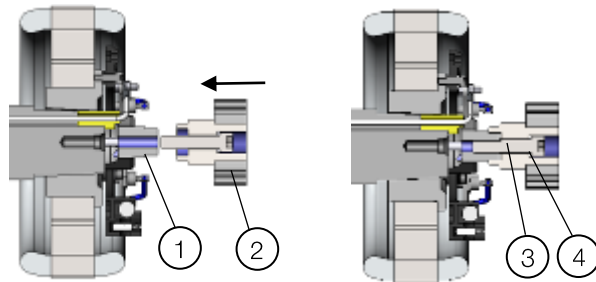

Figure 14.35: PMG rotor coupling
- 2) Fit the PMG rotor in the main exciter rotor coupling bushing and fasten it through the internal hexagon headed screw M12 with torque of 120 a 140 Nm and anaerobic chemical lock, according to Figure 14.35.
Key of Figure 14.35: